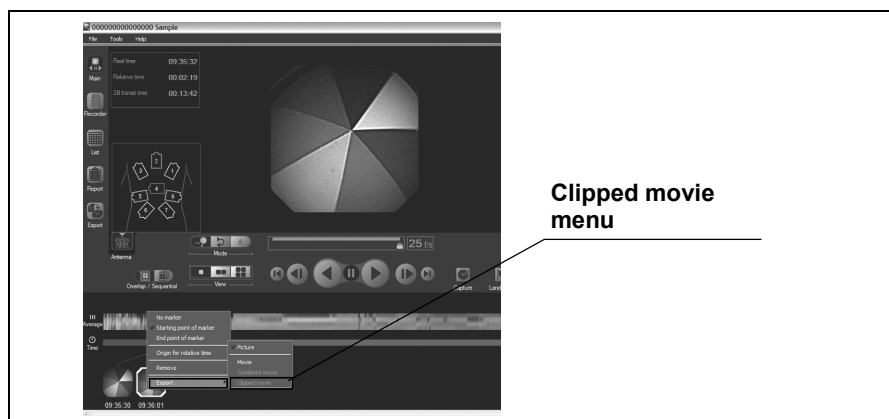

Figure 6.113
7. To create a clipped movie, right-click on one of the selected thumbnails and select “Clipped movie” from the context menu (see Figure 6.113).